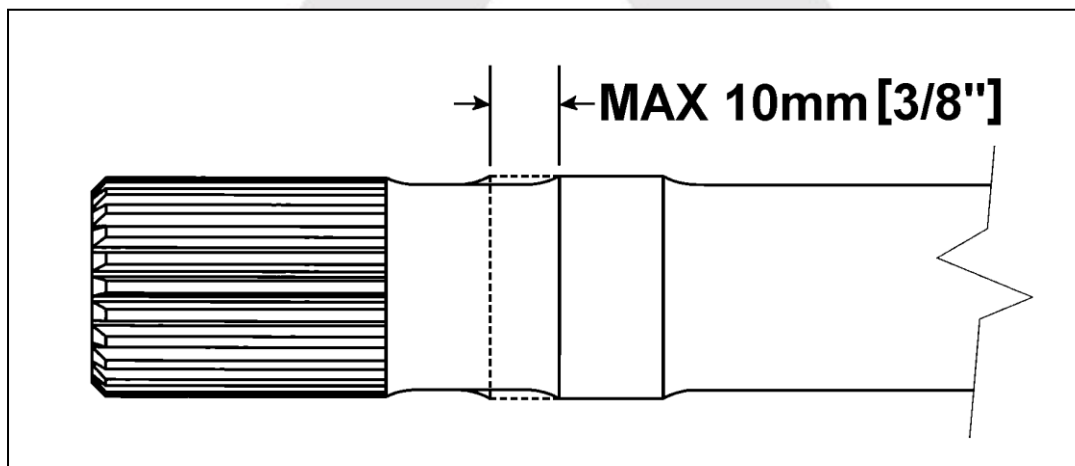

Figure 21.
- The left-hand front axle must have part of the raised section machined away to prevent the axle shaft from fouling the *Air Locker*. The necessary modification is shown in Figure 21.